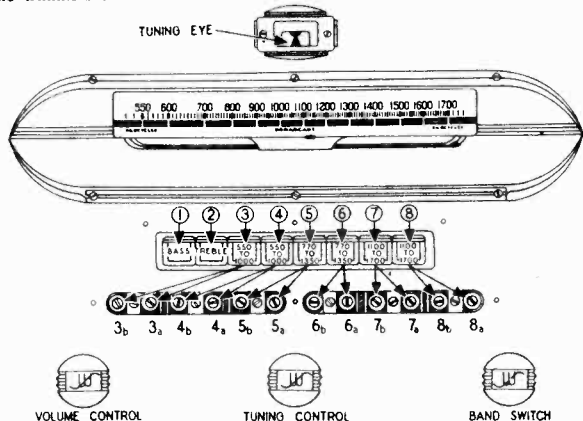

Fig. 1
- Make a list of six nearby stations to which you wish to set up the buttons. Be sure to select nearby, powerful stations, since weak signals will generally give poor results, also BE SURE TO SELECT STATIONS FALLING WITHIN THE TUNING RANGE OF THE INDIVIDUAL BUTTONS AS INDICATED IN FIG. 1.
- Each of the buttons on your Push Button Tuner has a definite operating range, as shown in Fig. 1; therefore it is imperative that you select a station which is in the operating range of the particular station assigned to the button. NEVER BE TOO LOOSELY OR TOO TIGHTLY ADJUSTED, IT IS IMPORTANT THAT THE PROPER TRIMMER SCREWS ARE USED: The frequency of your local stations may be obtained from your local newspaper or radio call magazine. For example, suppose you want to set a button to station WJW whose frequency falls within the operating range of buttons No. 3 or No. 4, whose range is 550 to 1000 kilocycles. IT SHOULD BE NOTED THAT WHENEVER IT IS POSSIBLE TO USE BUTTONS HAVING DIFFERENT RANGES, TO SET TO A GIVEN STATION, THE CORRECT BUTTON TO USE WILL BE THAT ONE FOR WHICH THE TRIMMER SCREWS ARE NOT TOO LOOSELY SET. "DRIFTING" IS A DIRECT RESULT OF LOOSE TRIMMER SCREWS AND THEREFORE SUCH SETTINGS OF TRIMMER SCREWS SHOULD BE AVOIDED IF POSSIBLE.
- Using a small screw driver, insert it in the second screw from the left (No. 3a in Fig. 1). Rotate the screw SLOWLY until the program heard previously is heard. Then manually turn the program knob to the next station. Repeat this procedure for each of the other buttons. THE POINT HERE ARE THE OPEN ENDS OF THE GREEN COLORED INVERTED "Y" SHAPED SHADOW IN THE TUNING EYE CLOSEST TOGETHER. It is advisable that you turn the trimmer screw in and out so that it will tune across the station several times in order that you may be sure that you have located this correct tuning point.
- Now insert the screw driver in the first trimmer screw on the left (No. 3b in Fig. 1) and turn until the program is received with maximum volume, and the correct position is indicated by the ends of the inverted "Y" in the tuning eye being closest together. Now go back to trimmer screw No. 3a and see if any improvement in reception can be made by adjusting it. Also repeat this operation for trimmer screw No. 3b.
3. Make a list of the frequencies, of six nearby stations to which you wish to set-up the buttons. Be sure to select nearby, powerful stations, since weak signals will generally give poor results. Also BE SURE TO SELECT STATIONS FALLING WITHIN THE TUNING RANGE OF THE INDIVIDUAL BUTTONS, as indicated in Fig. 1.
Each of the buttons on your Push Button Tuner has a definite operating range, as shown in Fig. 1, therefore, it is imperative that you select a station whose frequency is in the operating range of a button before attempting to set-up that button for the particular station.
AS THE ADJUSTING SCREWS SHOULD NEVER BE TOO LOOSELY OR TOO TIGHTLY ADJUSTED, IT IS IMPORTANT THAT THE PROPER BUTTON BE SELECTED. The frequencies of your local stations may be obtained from your newspaper or radio call magazine. For example, suppose you want to set a button to station WLW whose frequency is 700 kilocycles. Refer to Fig. 1 which shows that this frequency falls within the operating range of buttons No. 3 or No. 4, whose range is 550 to 1000 KC. Therefore either button No. 3 or No. 4 can be used for the automatic tuning of WLW.
4. Remove the escutcheon around the push-button by taking out the six screws holding it to the cabinet. This will expose to view twelve adjusting screws, each pair of which is used to tune a button to its correct station. The trimmers associated with each button are shown in Figure 1.
7. Now push in the third button from the left (No. 3 in Fig. 1). Using a small screw driver insert it in the second screw from the left (No. 3a in Fig. 1). Rotate the screw SLOWLY until the program that you have previously tuned in manually is again tuned in. If it cannot be heard, advance the volume control. BE SURE THAT YOU ADJUST THIS PARTICULAR SCREW (3a) TO THE POINT WHERE THE TWO OPEN ENDS OF THE INVERTED "V" SHADOW IN THE "TUNING EYE" ARE CLOSEST TOGETHER. It is advisable that you turn the screw in and out so that it will tune across the station several times in order that you may be sure that you have located this correct tuning point.
8. Next insert the screw-driver in the first screw on the left (No. 3b Fig. 1) and turn it until the program is received with maximum volume. The correct position is indicated by the ends of the inverted "V" in the "Tuning Eye" being closest together. Now go back to screw No. 3a and see if any im-
2. By referring to Fig. 1, determine the dual trimmer associated with the button whose range you wish to change.